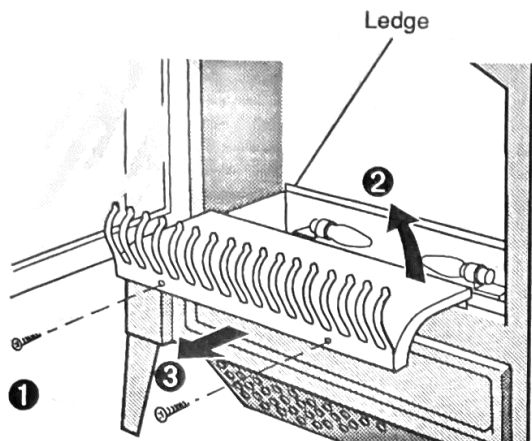

Fig. 5
Remove the two screws securing the fuel effect assembly (see Fig. 5 ❶).